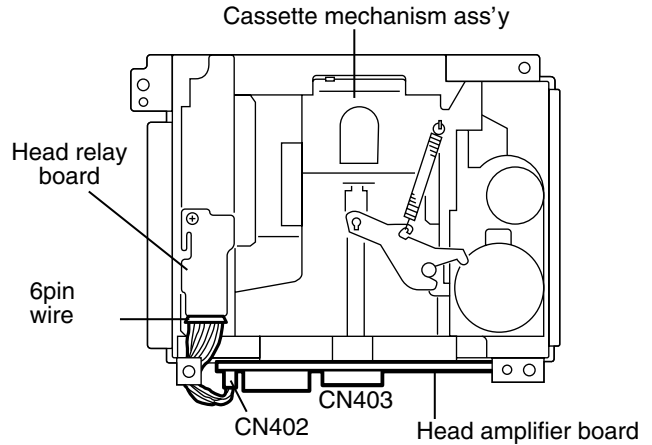

Fig.1
■ Removing the head amplifier board. (See Fig.1 and 2)
■ Removing the cassette mechanism assembly (See Fig.1 to 3)
1. Disconnect the 6pin wire from connector CN402 and the card wire from CN403 on the head amplifier board (Refer to Fig.1 and 2).